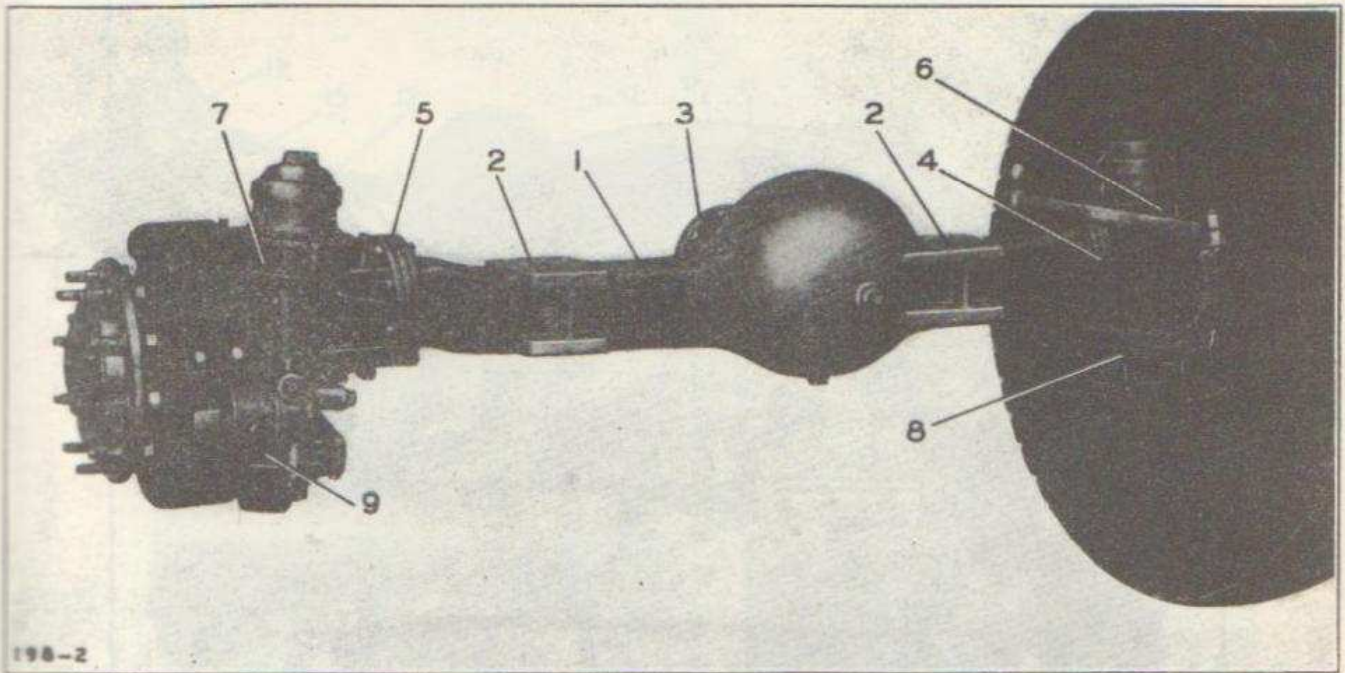

Fig. 3—Front View of Complete Axle
Figures 3 and 4 are, respectively, front and rear views of the complete axle, in which (1) is the housing, fully enclosing the axle drive unit and having perches (2) for the front springs. A propeller shaft extending forward from the transfer case is bolted to the flange (3) of the axle drive unit. Bolted to flanges (4) and (5) on opposite ends of the axle
ings (21) and (22) carried by the second-reduction gear housings (6) and (7) shown by Figures 3 and 4. Keyed to the lower ends of the drive shafts are bevel pinion gears (23) and (24) which drive, respectively, the third-reduction bevel gears (25) and (26), enclosed in the housings (8) and (9) which swing with the steering knuckles (27) and (28). These gears drive the wheels, being